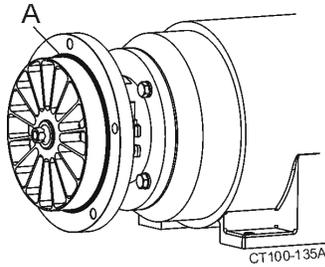

**Figure 32 - 2065LR Impeller Retainer Shimming**
5. Assemble the spring washers in series, as shown in Figure 32.